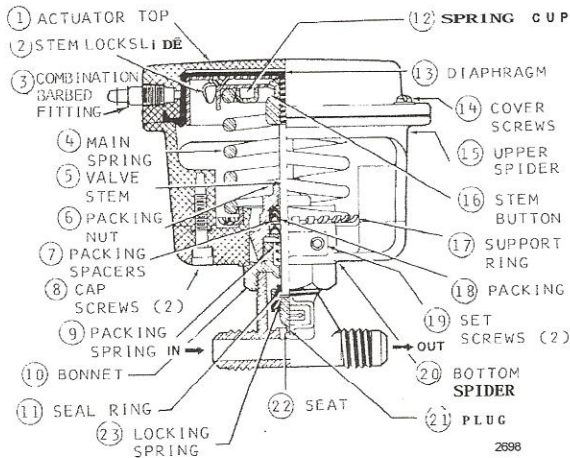

Fig. 2. Details of VP513A
DIAPHRAGM REPLACEMENT (See Fig. 2):
PACKING REPLACEMENT (See Fig. 2)
c. Remove bonnet (Fig. 2, ⑩).
- b. Remove throttling plug (Fig. 2, ⑪) for access
Inspect integral valve seat (Fig. 2, ⑫). If defective, replace complete valve.